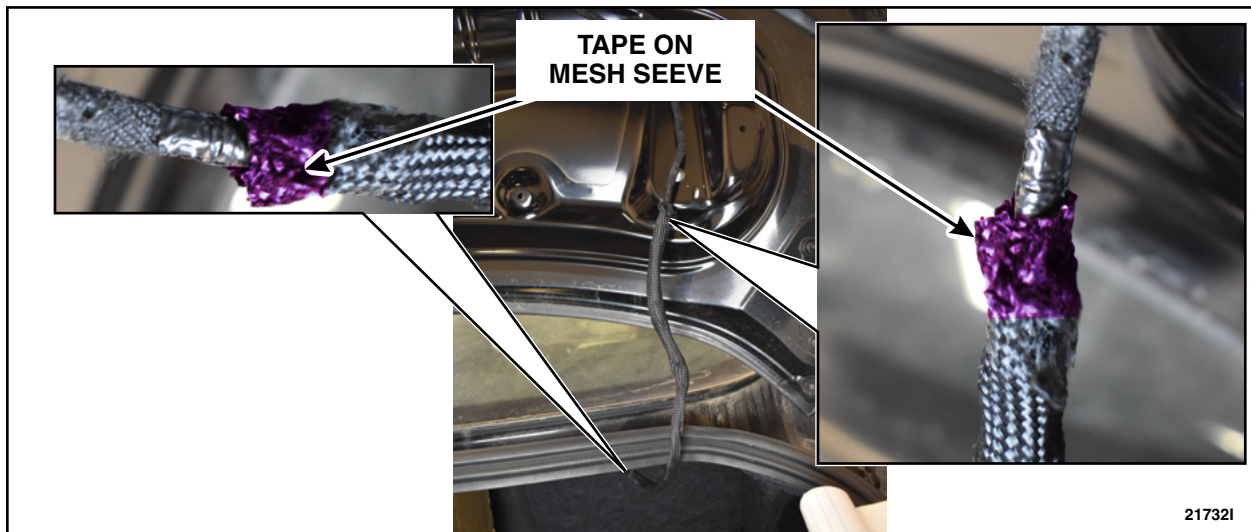

FIGURE 34
47. Remove the tape to expose both ends of the mesh sleeve. See Figure 34.